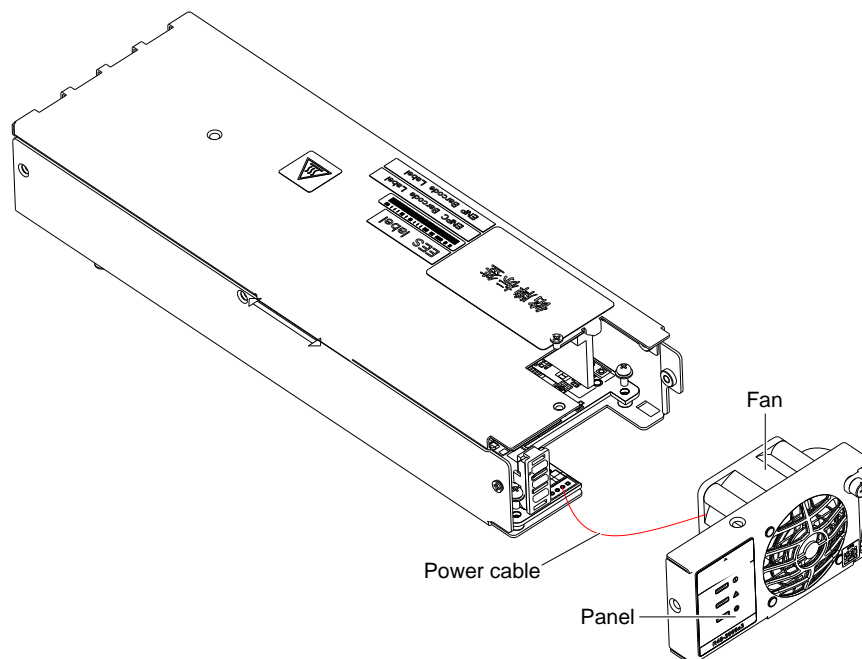

Figure 6-2 Rectifier fan replacement
- The power cable exits the fan body toward the other fan, as shown in Figure 6-2.